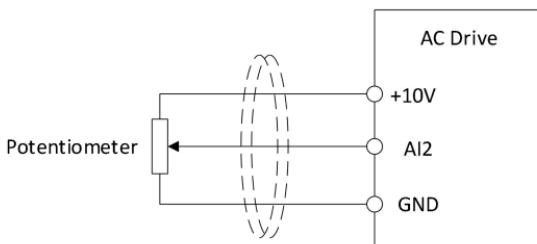

Figure 5-4-1 Voltage type wiring diagram
- ①Both AI1 and AI2 support 0-10V voltage input, see Figure 5-4-1
- ②The dotted line in the figure is a magnetic ring, usually ferrite,